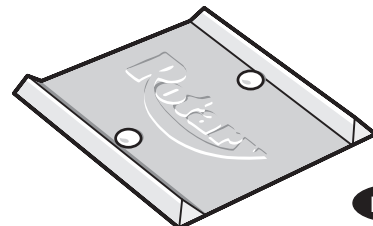

Fig. 27
24. Wheel Spotting Dish: Position wheel spotting dish as illustrated in Fig. 1a. Drill (2) 3/8" holes 2-1/2" deep in concrete floor using holes in wheel spotting dish as guide. Drive both anchors, provided, into concrete to secure dish, Fig. 27.